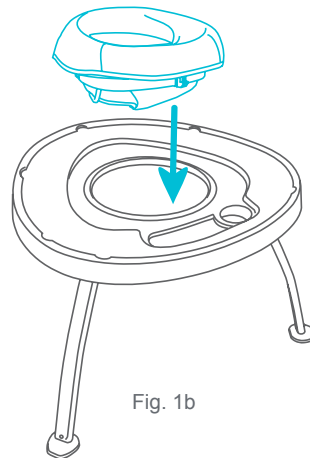

Fig. 1b
- If needed, Align the seat to the center opening and press it down firmly. The seat must completely click into the tabletop (Fig. 1b).